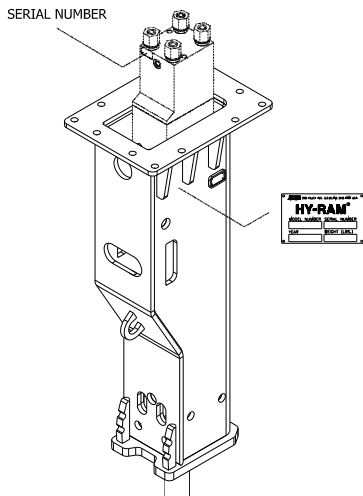

Fig 2-1 Equipment Identification
Refer to Figure 2-1. The Serial Number assigned to this equipment can be found in the following locations:
- Record the equipment's serial number to the space provided below. This information may be obtained from the Equipment Identification Tag. Refer to Fig 2-1 for the location of the tag.